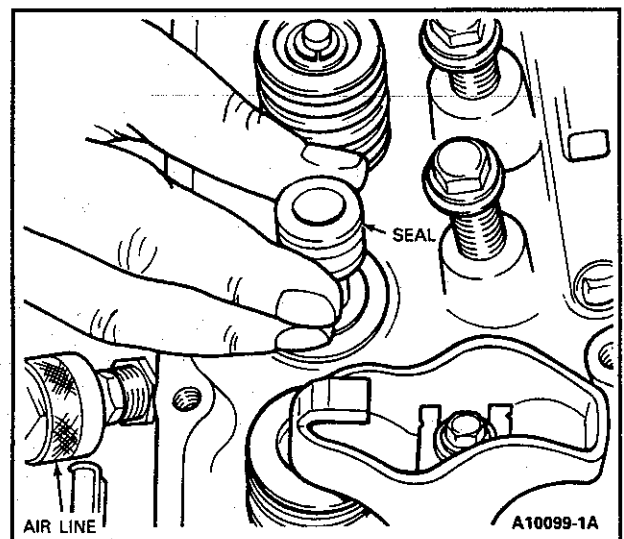

Figure 47 Removing or Installing Valve Stem Seal
6. Remove and discard the valve stem seal (Figure 47).
2. Install a new valve stem seal (Figure 47). Place the spring in position over the valve and install the valve spring retainer and sleeve. Compress the valve spring and install the valve spring retainer locks. Remove the compressor tool and stud nut.